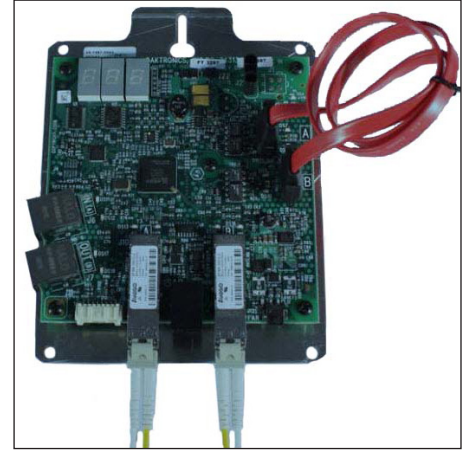

Figure 13: ProLink Router Connected for Self-Test
1. Connect a duplex fiber cable from Fiber Port A to Fiber Port B. Refer to **Figure 13**.